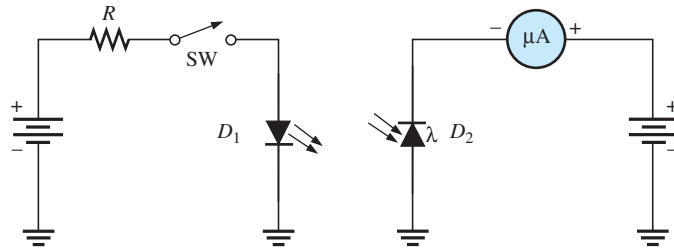

FIGURE 2–82
21. At what value must the control voltage be set in Problem 20 if the varactors have the characteristic curve in Figure 2–80?
22. When the switch in Figure 2–82 is closed, will the microammeter reading increase or decrease? Assume that D_1 and D_2 are optically coupled.